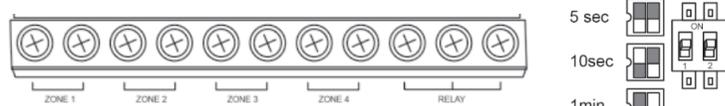

Figure 6
3. Locate the terminal block (Figure 6) located on the bottom of the PC board.
- Use the C-FORM relay by connecting an external device to the N/O or N/C and the COM terminal screws (Figure 6) labeled "RELAY".